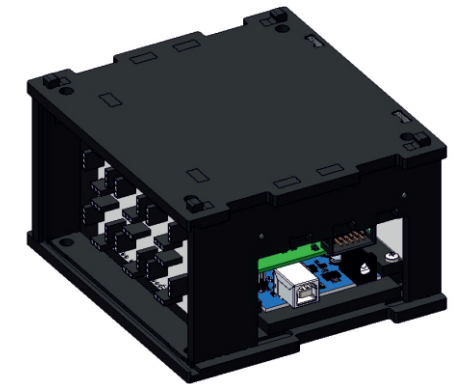

Fig. 44: Installing the top cover
11) Place the top cover on the assembled housing. To do that, align holes in the top cover with protrusions of two side walls, transparent panel and the bracket and latch them by applying some force (Fig. 44):